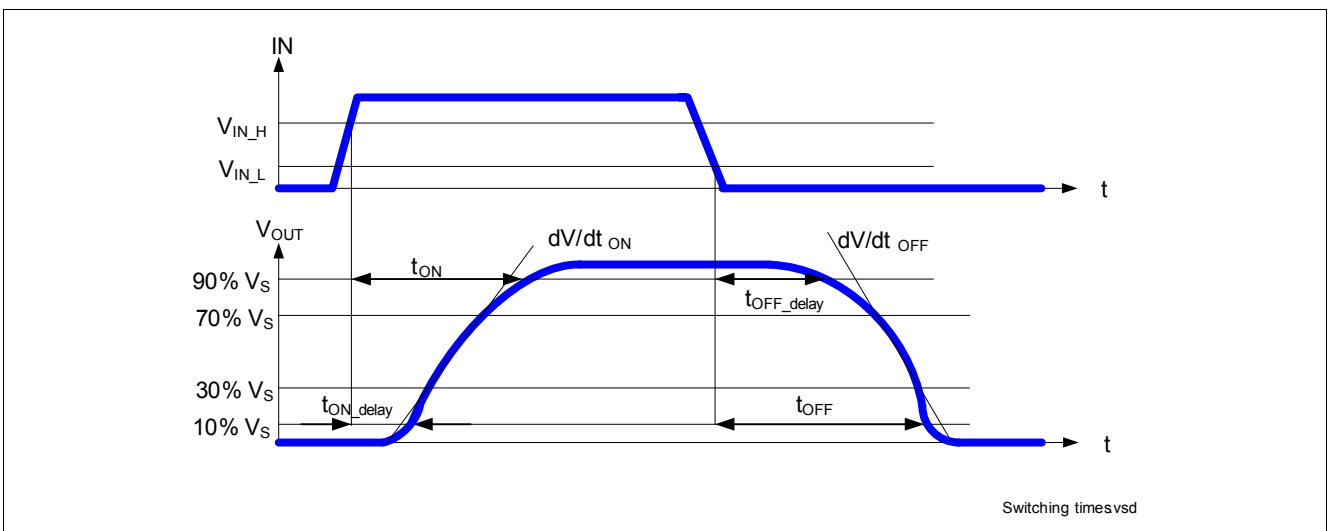

Figure 9 Switching a Resistive Load Timing
**Figure 9** shows the typical timing when switching a resistive load.